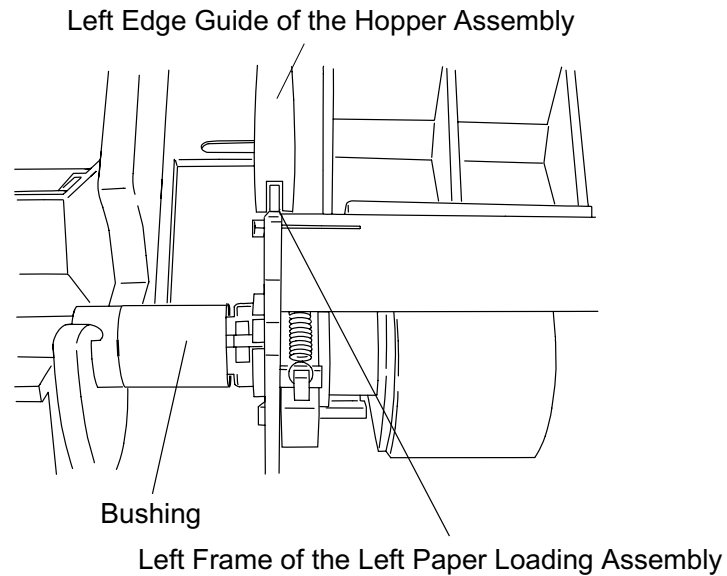

Figure 3-31. Engaging Hopper Assembly and Bushing
- ❑ Ensure that the left frame of the left paper loading assembly fits correctly into the groove in the bottom of the left edge guide for the hopper assembly. (See Figure 3-31.)